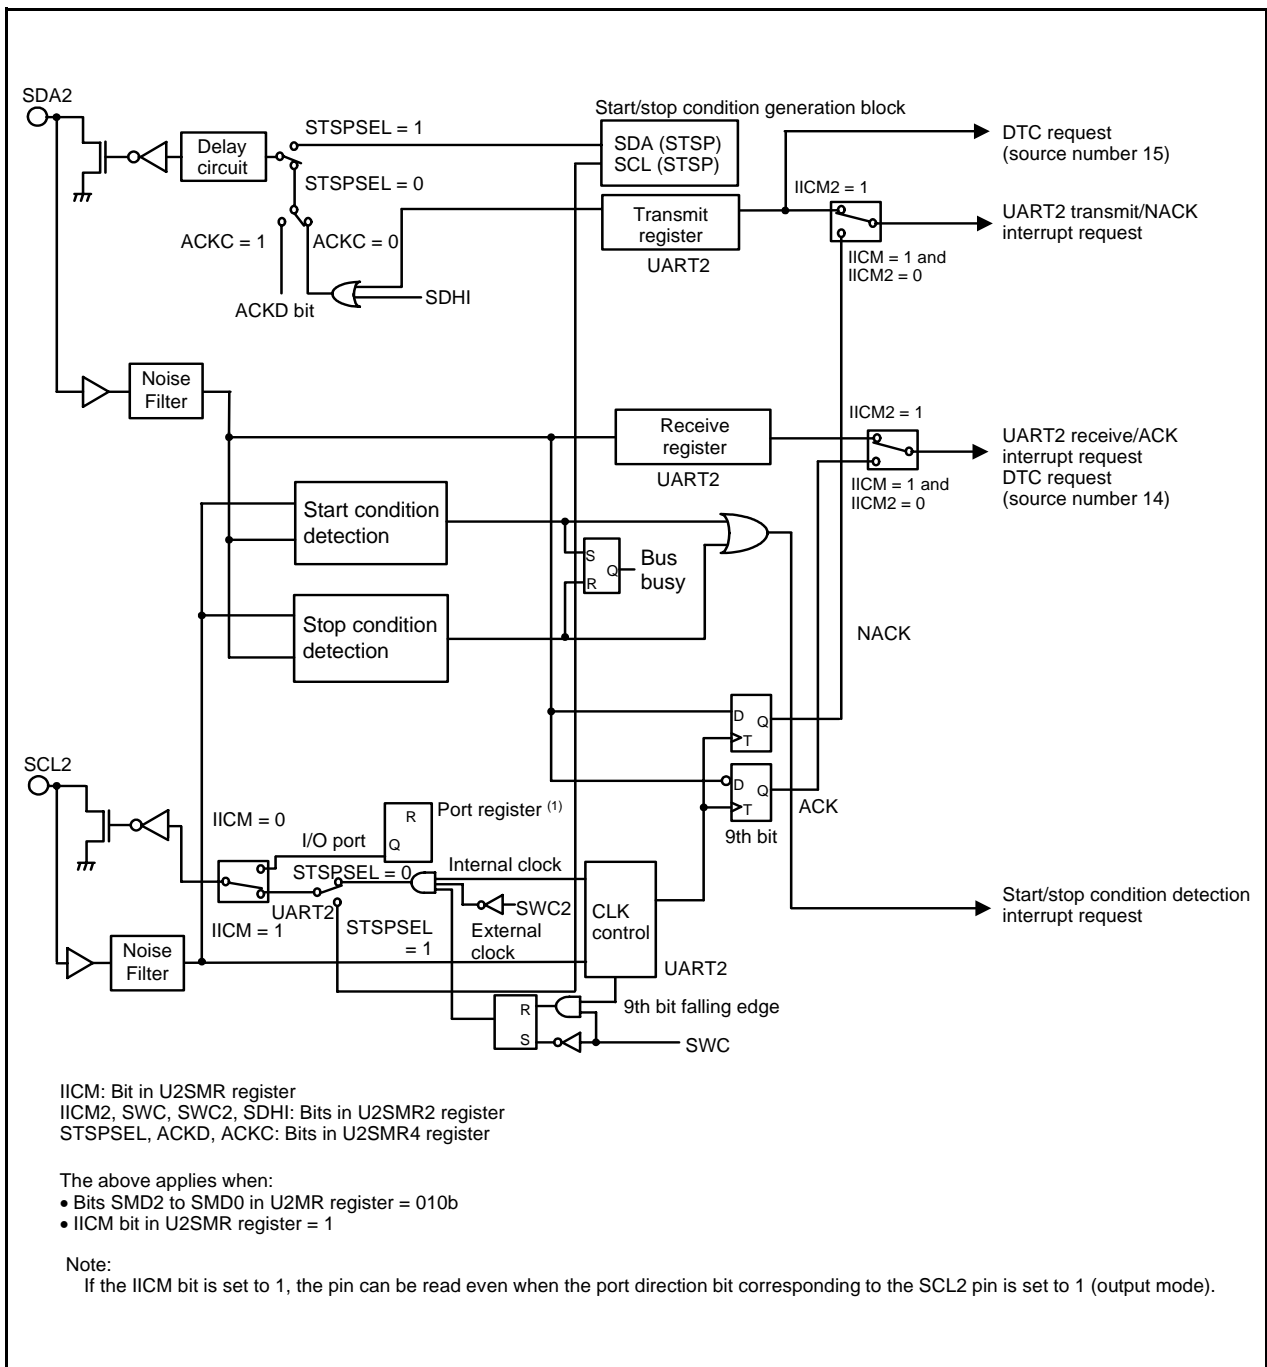
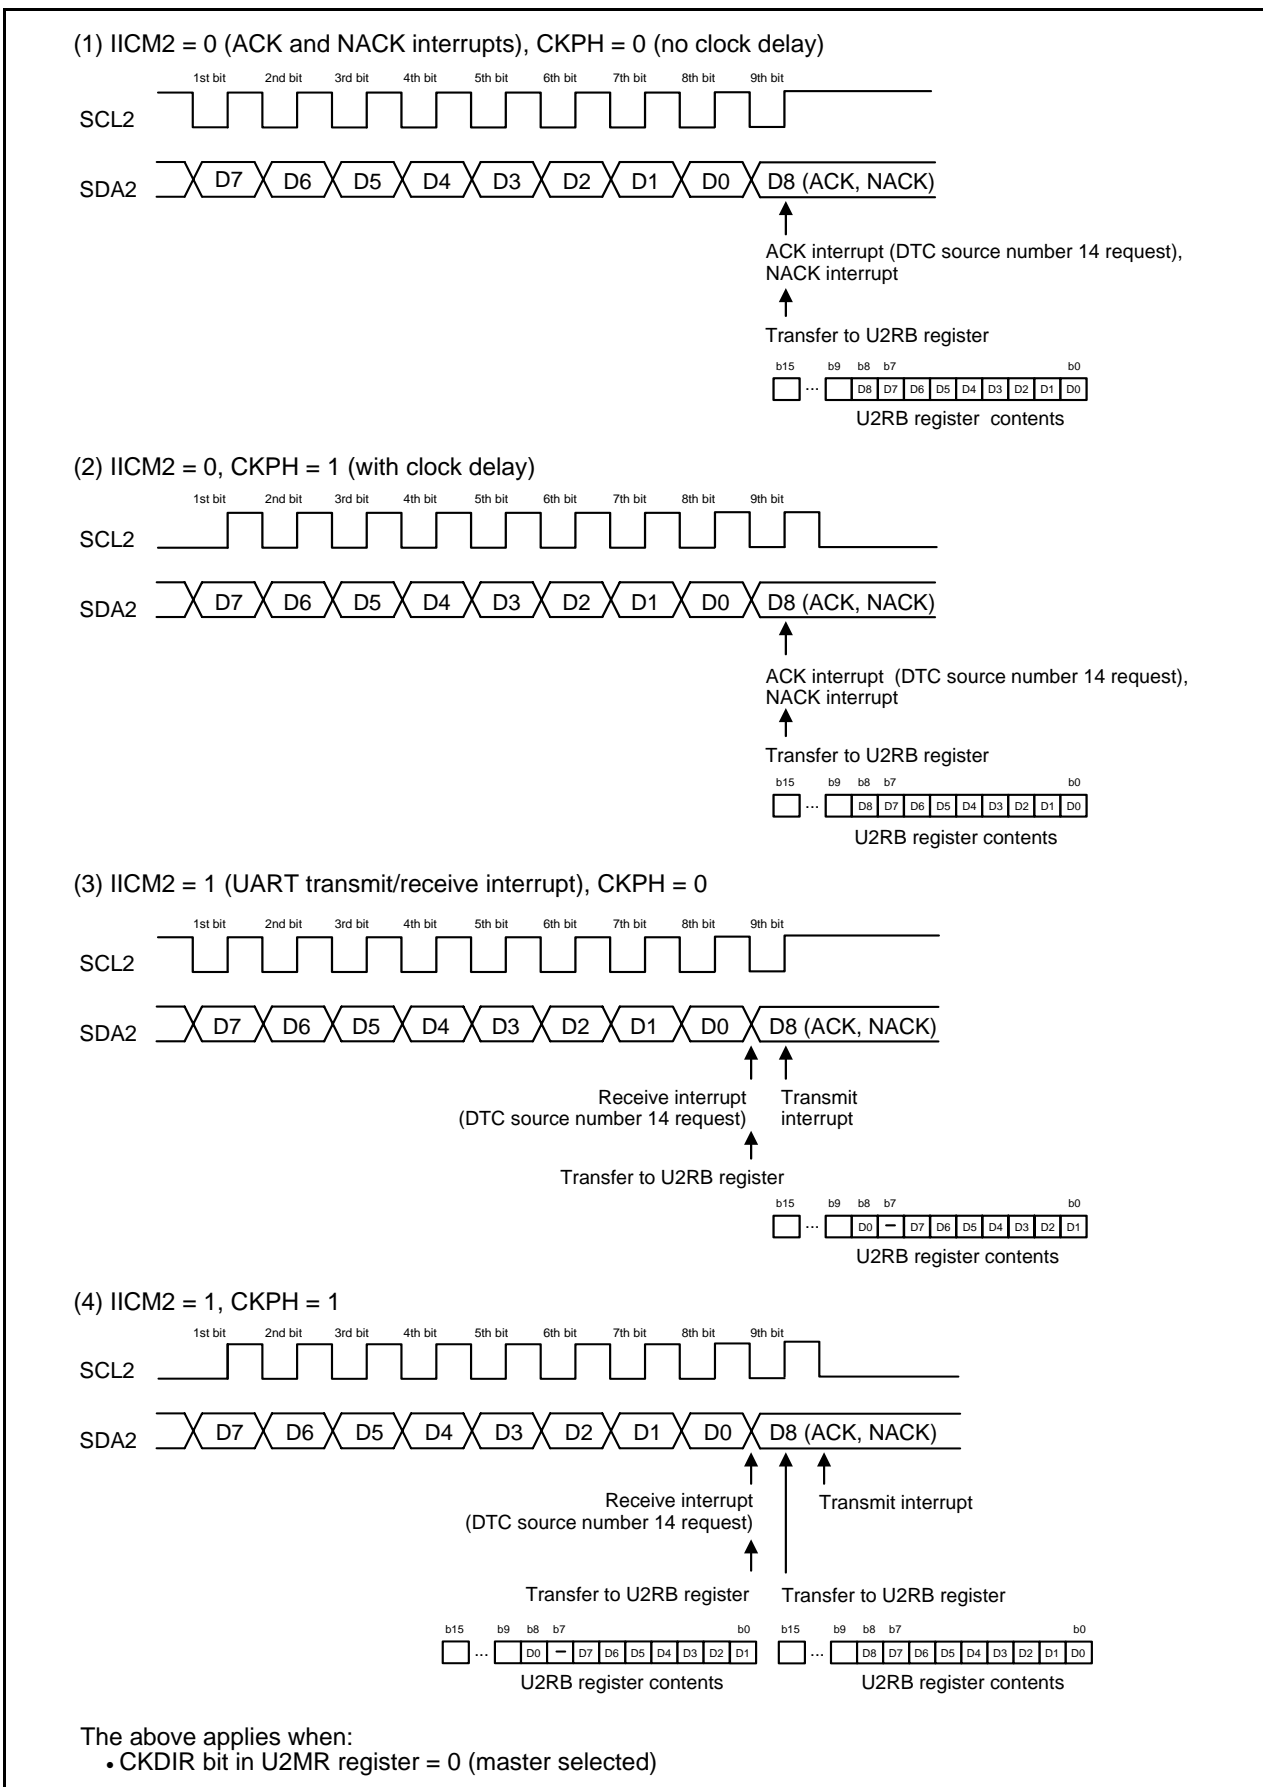

Figure 25.13 I²C Mode Block Diagram
Figure 25.14 Transfer to U2RB Register and Interrupt Timing
I²C mode is provided for use as a simplified I²C interface compatible mode. Table 25.9 lists the I²C Mode Specifications. Tables 25.10 and 25.11 list the registers used in I²C mode and the settings. Table 25.12 lists the I²C Mode Functions, Figure 25.13 shows an I²C Mode Block Diagram, and Figure 25.14 shows the Transfer to U2RB Register and Interrupt Timing.
- Refer to **Figure 25.14 Transfer to U2RB Register and Interrupt Timing**.
The transfer clock is used to transmit and receive data as is shown in **Figure 25.14 Transfer to U2RB Register and Interrupt Timing**.